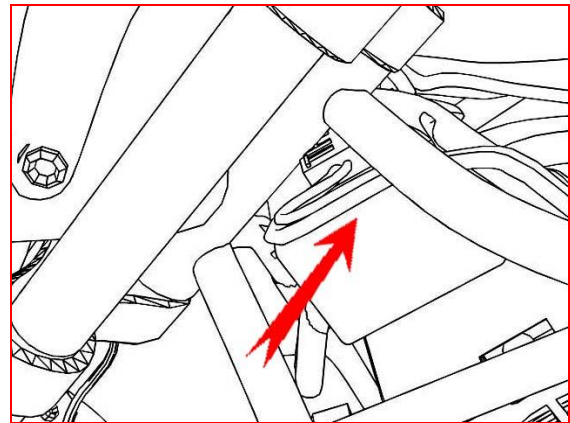

Figure 15
14. Pull any excess slack in the TFI harness back to the front. (see figure 15)